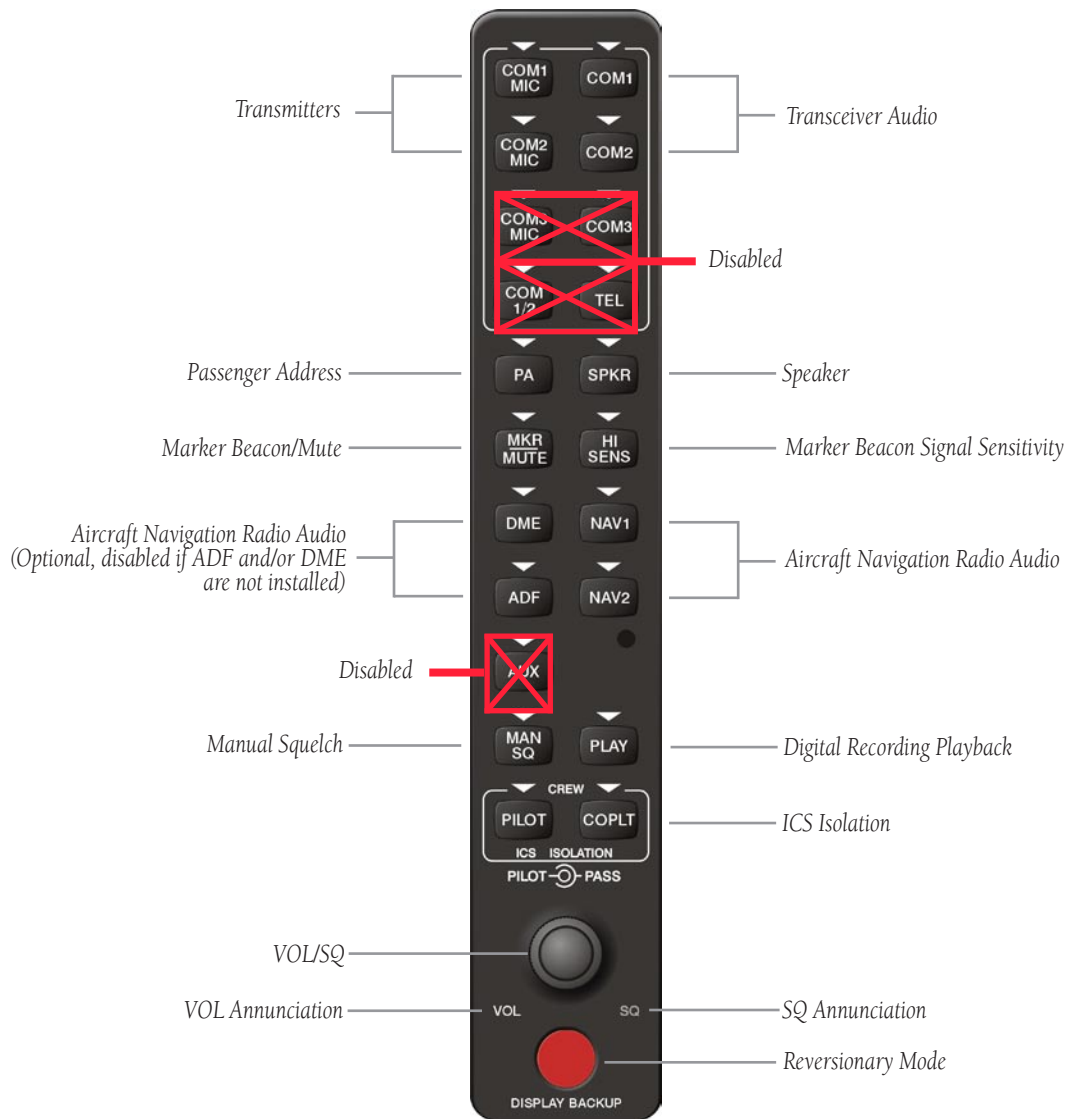

Figure 4-1 Front Panel Controls
The GMA 1347 features three (3) major groups of keys as shown in Figure 4-1: